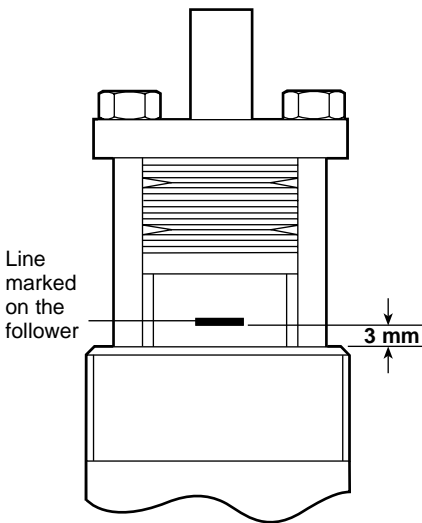

Fig. 3a
16. Fit the packing follower (22), refit the belleville washers (25) following the original order, and stuffing box ring (19) into position. Lubricate the stuffing box nuts (16). Install and tighten the packing flange nuts finger tight.
18. The packing should now be compressed by a nominal 10%. Mark a line on the follower 3 mm above the top of the gland housing. Then tighten the packing flange nuts, until the line on the follower reaches the top of the housing (See Figs. 3a and 3b opposite).